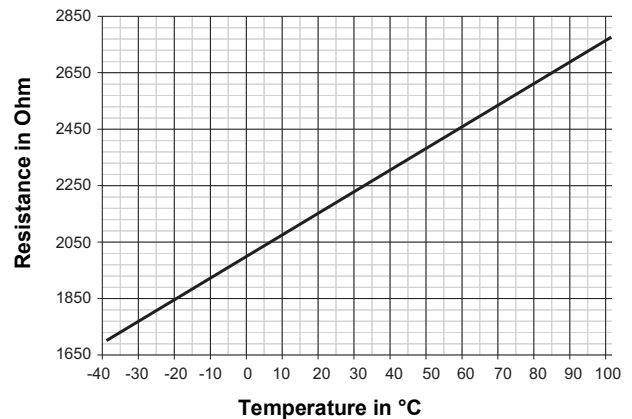
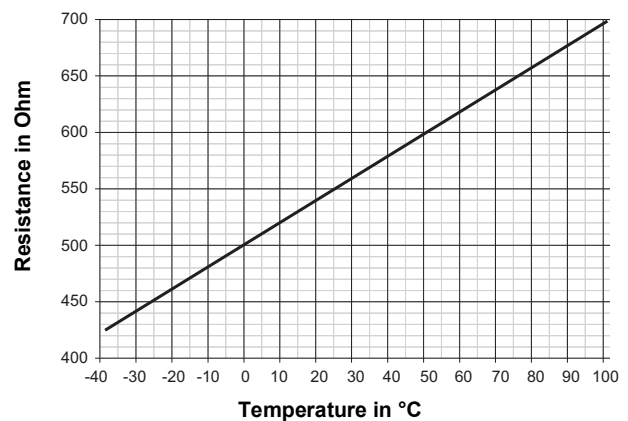

Fig.503
Fig.504
- The water temperature sensor and the overheating protection should indicate values according to the charts (Fig.503 and Fig.504). Preferably the resistance should be measured at an approx. consistent temperature of 20°C and approx. 100°C (immerse sensor up to the copper gasket ring into boiling water). Prior to reading the value, the sensor should be exposed to the temperature for approx. 20 seconds. A measurement tolerance of +/- 5°C under workshop conditions is permitted.